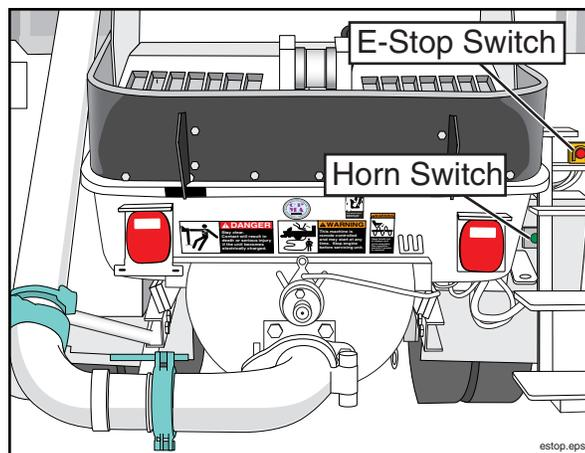

Figure 10
4.3 ⚠️ WARNING! Hose whipping and other hazards. You must know how to stop the pump in an emergency. Have the operator show you the locations of the emergency stop switches and how they work. If an emergency arises, hit the E-stop switch, then tell the operator about the problem. See Figure 10.
4.4 ⚠️ WARNING! Hose whipping and other hazards. You must know how to signal the pump operator to stop the pump if you can't keep enough concrete in the hopper. Some pumps are equipped with horn buttons on the rear of the pump. (See Figure 10.) Have the operator show you how to signal them. Use the emergency stop switch only if you can't get the operator's attention, because there is a restarting procedure from emergency stop that may cause delays. In spite of the restarting procedure, do not hesitate to use the emergency stop if the need arises.